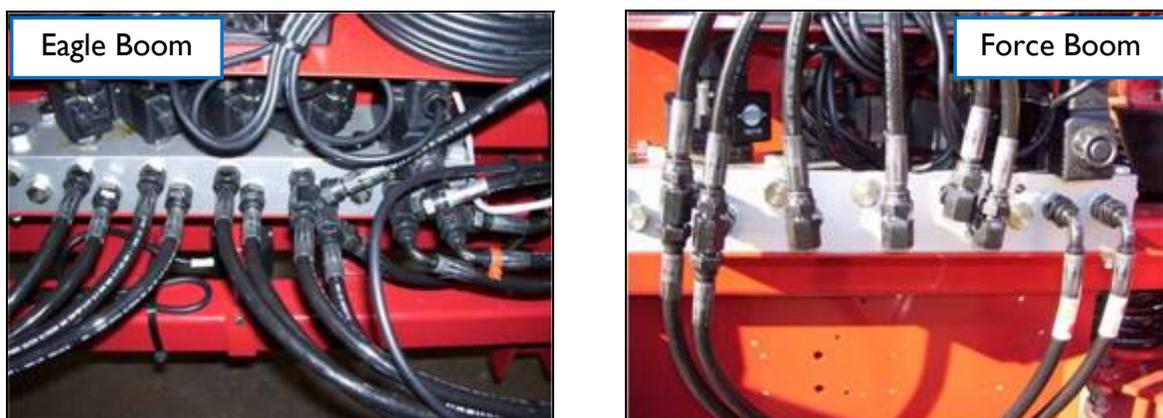

**Figure 28: Restrictor to be Replaced on the Tilt Cylinders**
4. Remove the Hardi hoses from the tilt cylinders and replace the restricted BSPP fittings from the butt ends of the cylinders with straight through 1/4 x 3/8 BSP fittings (**Figure 28**).